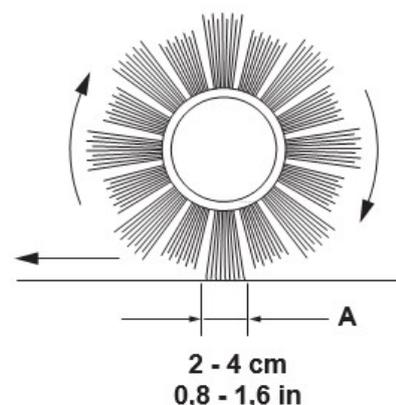

Figure 18
5. Check the width of the broom print on the ground (A, Figure 18), which should be between 2 and 4 cm.
6. If the width of the broom print (A, Figure 18) is not within specifications, adjust the main broom height using the following steps.
If the print (A, Figure 18) cannot be adjusted properly due to different length of bristles resulting in different pressure on the floor, refer to the Service Manual.